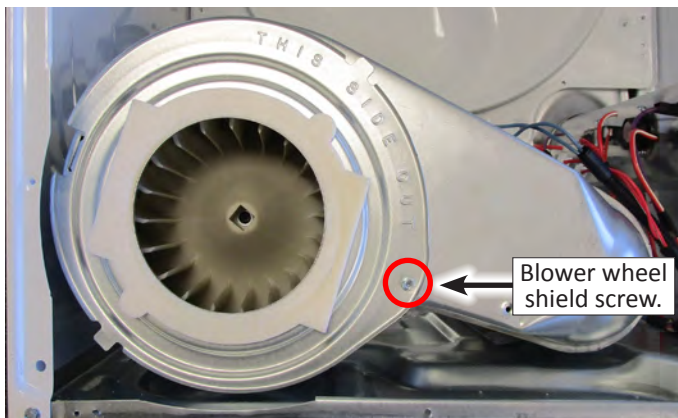

Figure 1 - Blower wheel shield screw.
5. Using a 1/4" nut driver, remove the one (1) hex-head screw securing blower wheel shield to blower housing (see Figure 1).